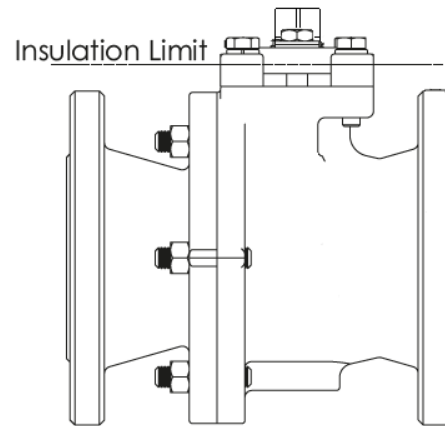

Figure 2. Insulation of the valve
Neles™ ball valves do not require insulation. If desired, the valve may be insulated; however, the insulation must not continue above the upper level of the valve. See **Figure 2**.
3. With a brush, clean body bolts (15) and gland bolts (14) of foreign material such as paint, thread locker, grime and commodity. Inspect the threads for damage or defect with appropriate ring or plug gage. Repair any out-of-tolerance threads or replace in-kind.
4. Re-inspect all components for damage to the sealing areas, stem (4), body (1), and cap (2). Replace any damaged parts.
5. Carefully clean and polish the ball (3) sealing surface: It should be free of all scratches and grooves.
7. With the body cavity facing up, insert one valve seat (5) into the body (1) to below the stem bore. Tilt the seat into place and position so the proper surface will be in contact with the ball.
8. Insert the stem (4) into the body (1), and press it gently up into the stem.
9. Holding stem (4) in place from the bottom and insert the gland packing (7) over the stem. See **Figure 2** for proper V-ring orientation.